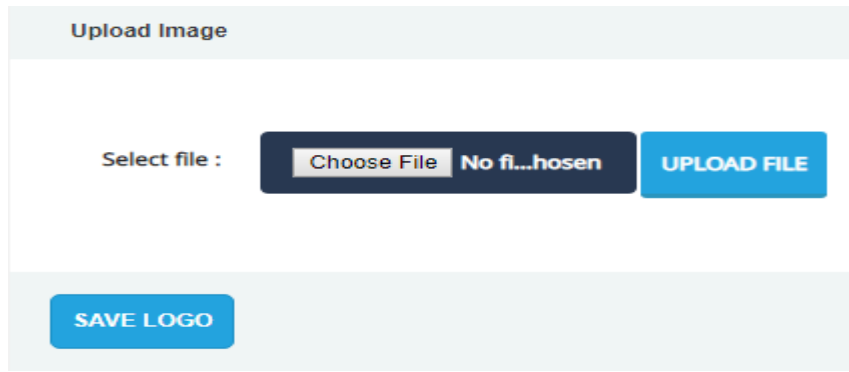

Figure 1.25
3. Select the required image and click the **UPLOAD FILE** button to finish. (Figure 1.25)
4. Click the **SAVE LOGO** button to save that image as the company logo. (Figure 1.25)